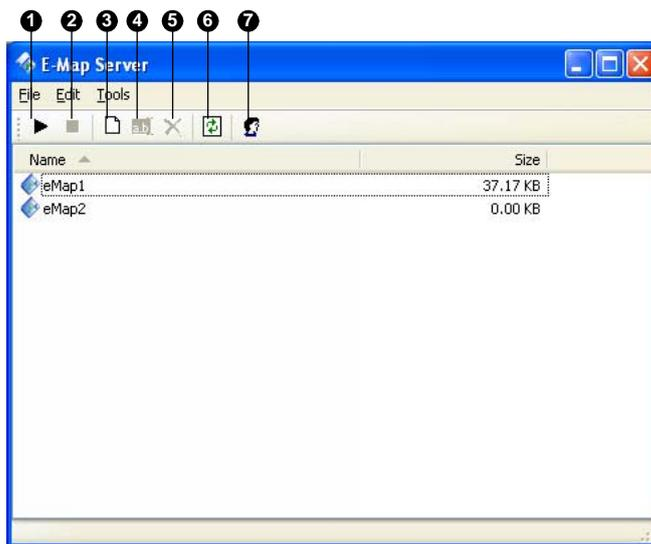

Figure 7-10
1. Click the **New** button (No.3, Figure 7-10) to create e-map(s). For details on creating an e-map file, see “Creating an E-Map File,” earlier in this chapter.
2. Click the **Accounts** (No. 7, Figure 7-10) button to create a user account that will use the server.